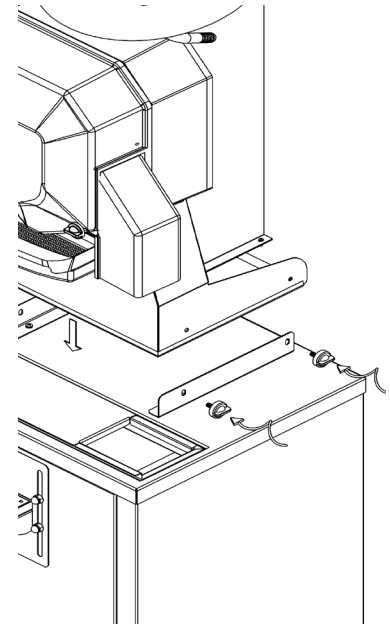

Figure 2
If you have purchased the Mobile Car with your machine; before putting your machine on your mobile, take the wheels of your mobile car into the braked position. Put your machine on the mobile car and make sure that the L metal sheets (09-10) stay inside. Align the holes on the foot with the holes on the L Iron Sheet to the same axis and fix it with the male screws (23) **(Figure 2)**.